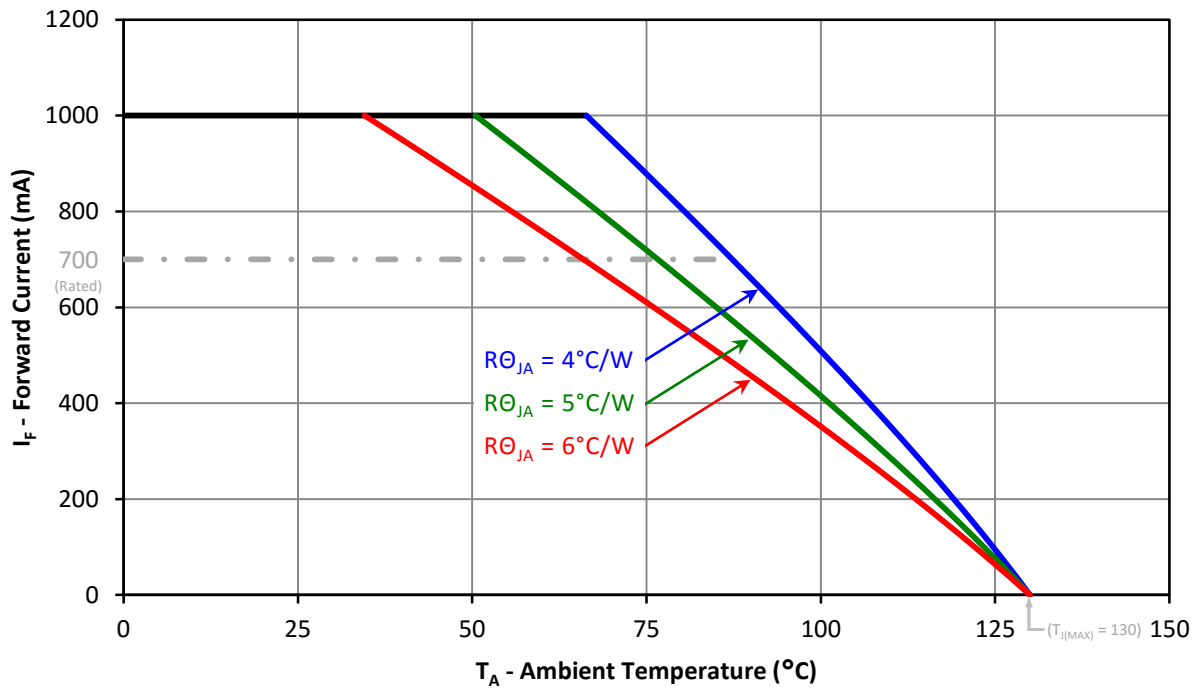

Figure 11: Maximum forward current vs. ambient temperature based on $T_{j(\text{MAX})} = 130^\circ\text{C}$
- Maximum DC forward current is determined by the overall thermal resistance and ambient temperature. Follow the curves in Figure 11 for current derating.